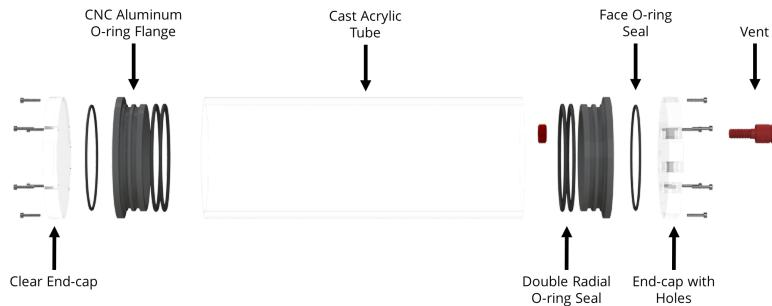

Figure 20: Exploded view of pressure housing parts. Note that the end with the vent cap also has the pressure and temperature sensors attached
7. Prepare the pressure housing. See Figure 20 for and exploded view of the pressure housing components.